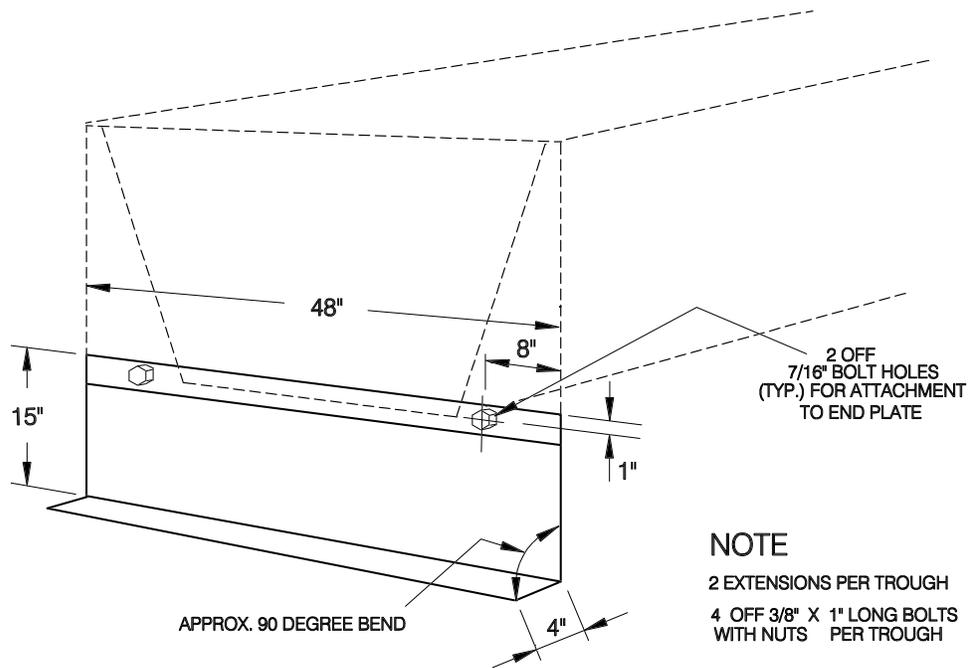

FIGURE 3 END PLATE EXTENSION
- ① REFER TO FIGURE 3 PAGE 6 FOR DETAILS OF END PLATE EXTENSION